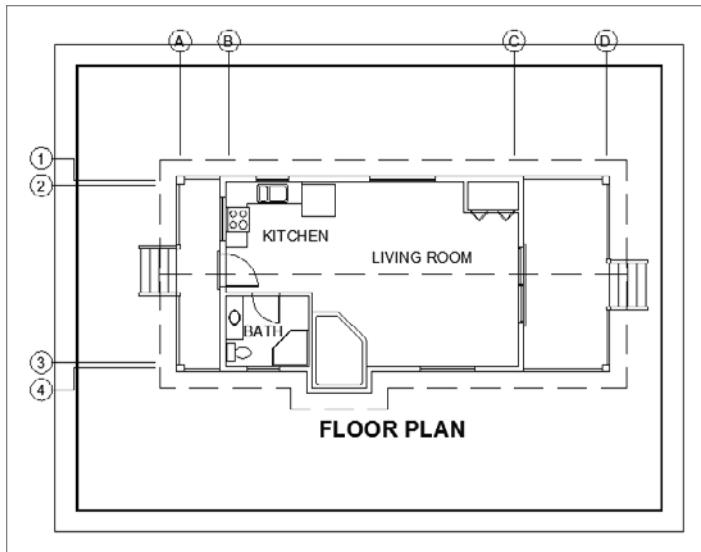

FIGURE 8.41 The drawing with its border
11. Move both rectangles to center the cabin. Use Zoom Extents, and then zoom out a little to create a view in which the drawing with its border nearly fills the screen (see Figure 8.41).